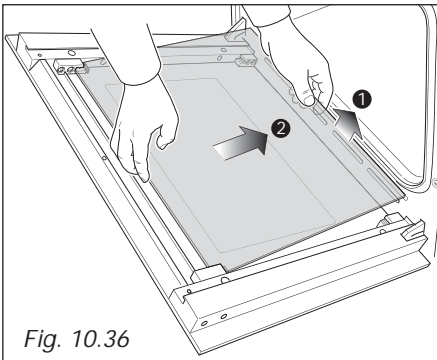

Fig. 10.36
- Gently lift the bottom edge of the pane (arrow 1 in fig. 10.36) and remove it by pulling it out from the top clamps (arrow 2 in fig. 10.36).